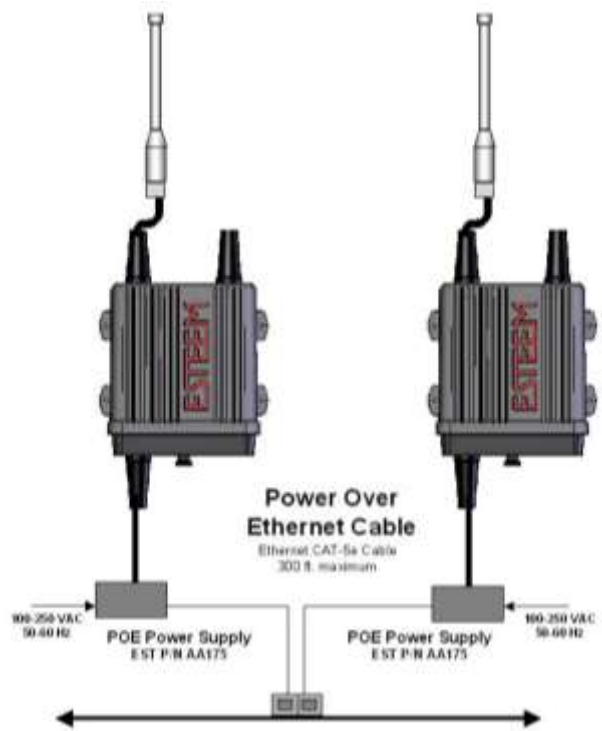

Figure 7: Redundant Backup Diagram
The ESTeem Model 195Ea configured in Access Point Repeater mode will automatically function as a redundant backup if two Model 195Ea's are installed at the same location (Figure 7). If two Model 195Ea's are connected to the same switch, one of the Model 195Ea's will be **Blocked** when the Spanning Tree Protocol is completed. The network will continue to use this route until any problem with the original Model 195Ea is detected and the second Model 195Ea will begin operation at that site.
**Redundant Master Configuration** – The configuration in Figure 7 will also provide a redundant backup for the Master Site (Root Bridge). Configure both Model 195Ea's as Root Bridges (see above) giving the primary Root Bridge a value of 1 and the secondary Root Bridge a value of 2.